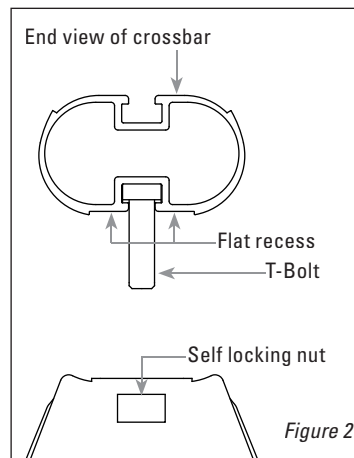

Figure 2
5. Now you're ready to attach the Crossbars (see Shim Installation, page 6, if shims are required on front and rear racks). Insert the heads of four 1 1/2" T-Bolts into the Crossbar Slot on the bottom of each Crossbar (the bottom is the side with the Flat Recess) (see Fig. 2). Slide 2 T-Bolts to the left side and 2 T-Bolts to the right.